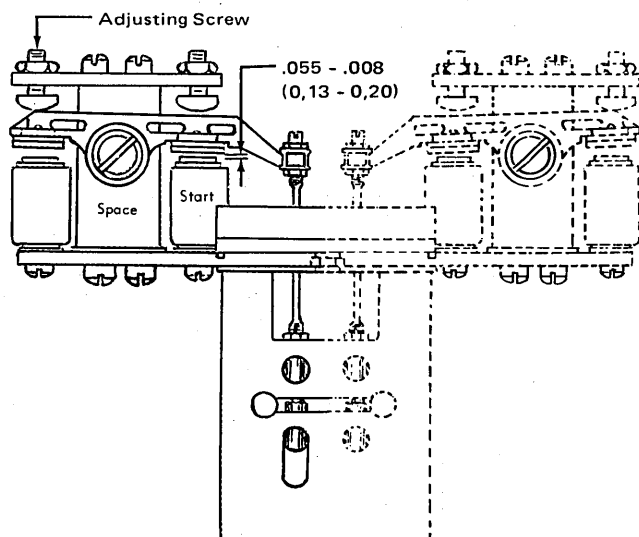

Figure 4-65. Space Start-Magnet Energized
8. With the space-start magnet energized, adjust the backstop farthest from the operating rod for .005 to .008 in. (0, 13 to 0, 02 mm) clearance, preferably .005 in. (0, 13 mm) between the armature and the start-magnet cores (Figure 4-65).